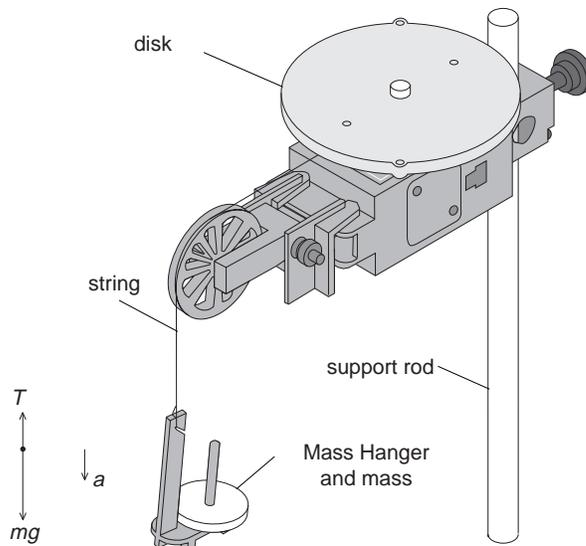

Figure 2.3: Rotary Motion Sensor and Free-Body Diagram
(see Figure 2.3). Solving for the tension in the thread gives:
- ① Mount the RMS to a support rod and connect it to the interface.
- ② Mount the clamp-on Super Pulley to the Rotational Motion Sensor.
- ③ Tie one end of the string to the Mass Hanger and the other end to one of the levels of the 3-step Pulley on the RMS.
- ④ Drape the string over the Super Pulley such that the string is in the groove of the pulley and the Mass Hanger hangs freely (see Figure 2.3).
- ⑤ Place the disk directly on the pulley as shown in Figure 2.3.